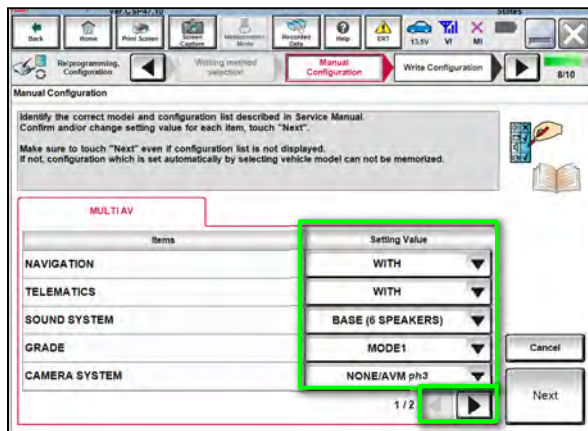

Figure 36
55. Use the drop down menus (Figure 36) to select the values that were written down in step 16 on page 7.